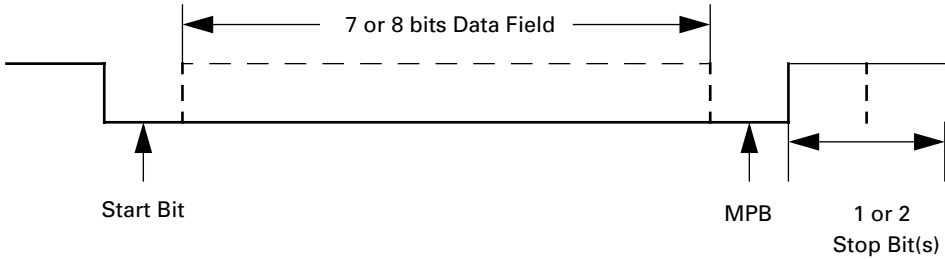

Figure 35. MP Mode Serial Data Format
**Note:** The multiprocessor format does not provide parity. The serial data format while in MP mode is illustrated in Figure 35.